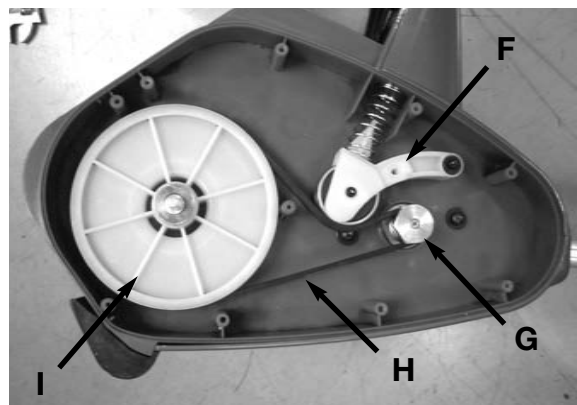

Fig. 9
3. Pull the belt tensioner (F) away from the drive pulley (G). Remove the damaged or broken belt (H) from the driven pulley (I) and drive pulley inside of the housing. Discard appropriately. (Fig. 9)